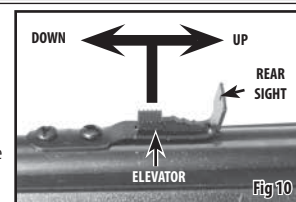

Fig 10
- The rear sight may be adjusted to shoot right or left (windage). Loosen the windage adjustment screws by turning them counterclockwise. Move the sight to the right to make the pellet hit to the right on the target. Move the sight to the left to make the pellet hit to the left of the target. Then tighten the windage adjustment screws by turning them clockwise. (Fig. 10)